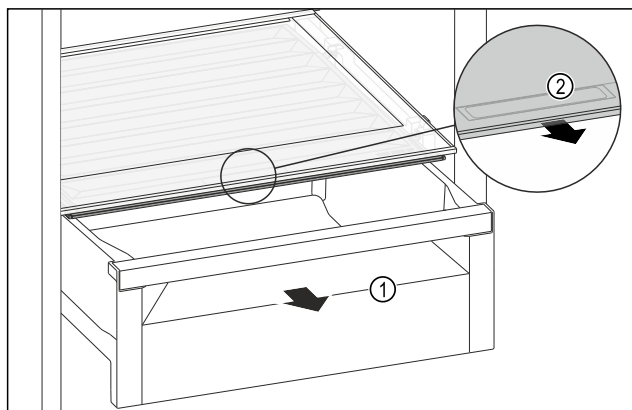

Fig. 139
- Pull out the drawer Fig. 139 (1).
- Grasp the recessed grip Fig. 139 (2) on the compartment lid and pull the compartment lid forwards at the same time.